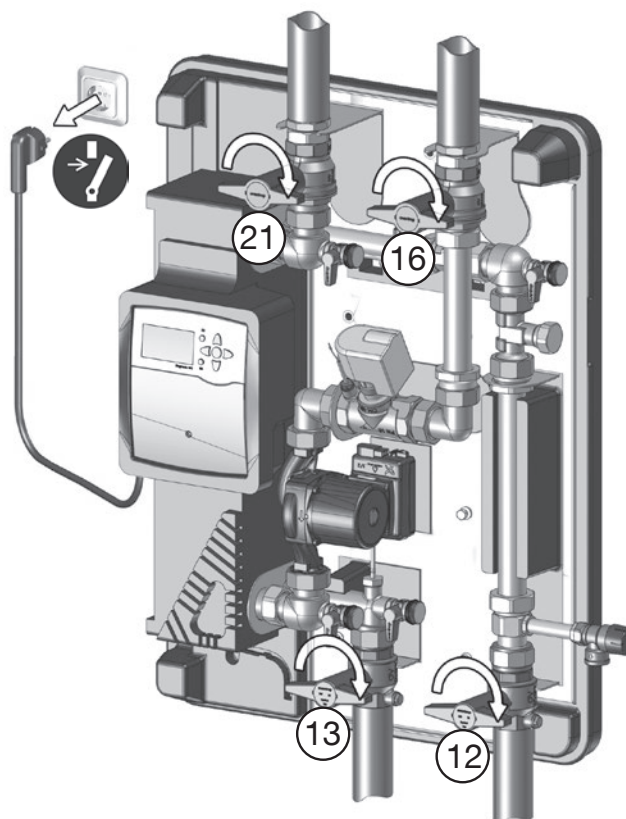

Fig. 5.13: Disconnect the controller from the power supply and close all isolating ball valves
2. **Close the isolating ball valves (12 and 13) (potable water circuit) and (16 and 21) (storage cylinder circuit)** (Fig. 5.13).